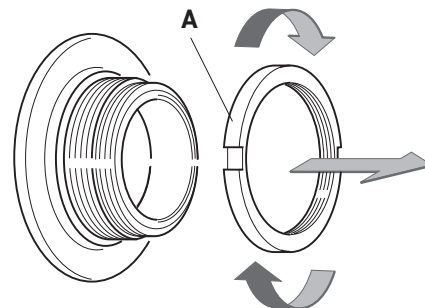
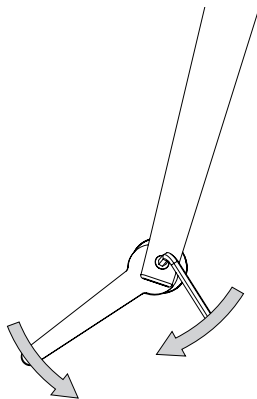

Fig. 6
Fig. 15
- Remove the ring nut (A - Fig. 6) from the hub, turning it clockwise.
- Tighten the screw from the non-adjustable side of the pivot (B - Fig. 6), to a torque of 13-14 Nm, counteracting the rotation of the pivot with a 17 mm flat wrench (Fig. 15) on the same side of the pivot.